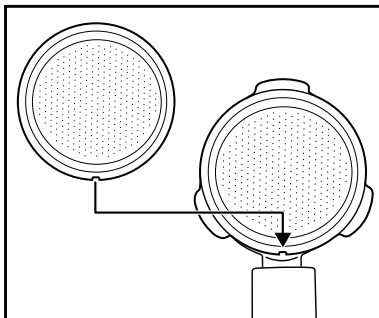

Fig. 1
- Make sure that the small indentation on the large **15** or small espresso sieve **16** is located above the indentation on the sieve holder **13** when inserted (see Figure 1).